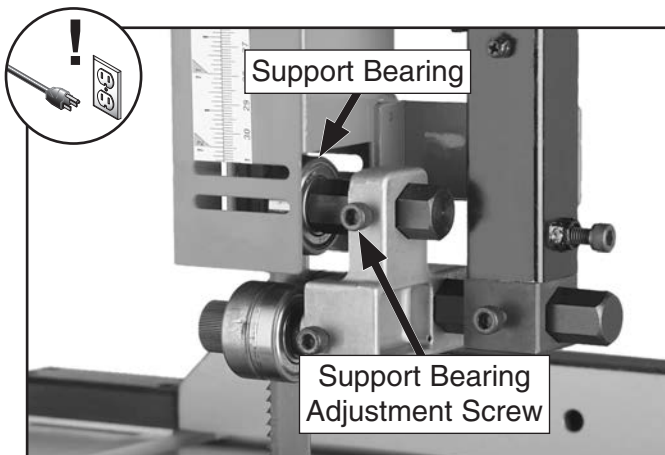

Figure 46. Upper support bearing controls.
2. Loosen support bearing adjustment screw (see **Figure 46**).